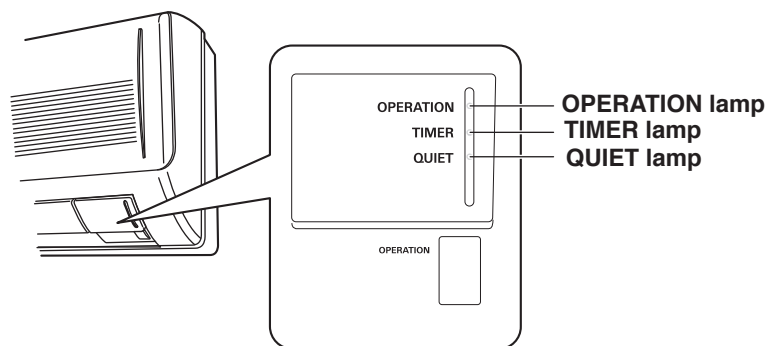

Fig. 11
- This starts the fan producing uncooled forced air with the 3 indicator lamps (OPERATION lamp, TIMER lamp, and QUIET lamp) on the main unit blinking. (Fig. 11)